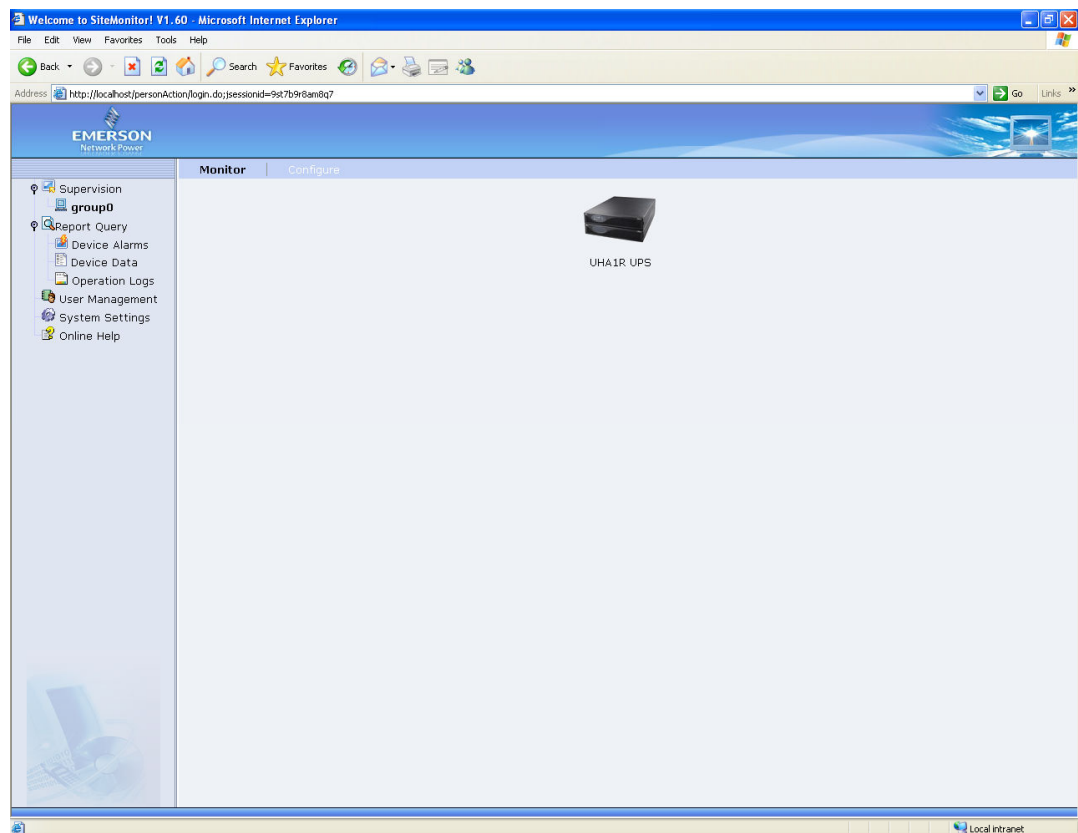

Figure 24 UHA1R UPS interface
4. Double-click the **group0** icon to pop up the interface shown in Figure 24.